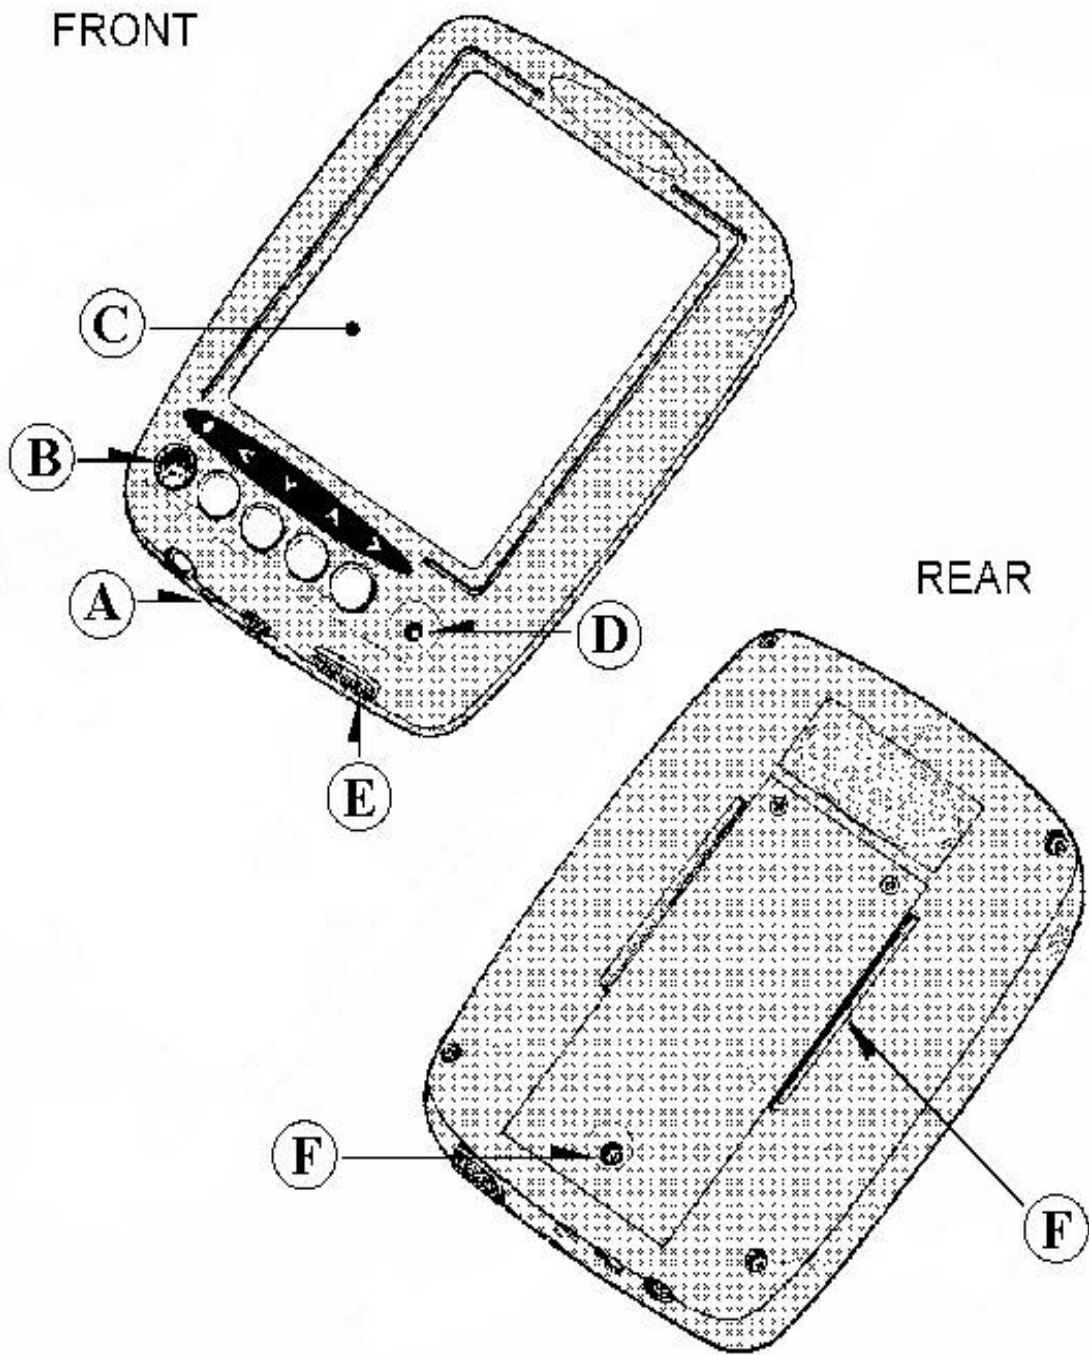

Figure 1
The M57R external description is shown in Figure 1.
This section is a quick review of the external parts of the Ball M57R Receiver (please refer to Figure 1 on the next page).
Activating the Ball M57R Receiver is performed by sliding the switch ((A) in Figure 1) to the right. In the first six seconds the M57R Receiver starts a self-diagnostic systems check. If the system check passes, you will see the Ball logo, ownership and balloon manufacturer's data displayed for approximately 6 seconds, then the "Flight Screen" will appear. If the system check fails, the Liquid Crystal Display screen will stay blank and an audible alarm will sound.
To turn the instrument off, slide the switch ((A) in Figure 1) to the left. You can turn the instrument off in any display, but it will always return to the "Flight Screen" when turned on. It is best to pause 3 to 4 seconds before turning the unit back on once you turn it off. The reason for this is to let the components lose their charge. If you switch it off then on rapidly, you may get a jumbled display. If this happens turn the unit off... pause... then back on to return to proper display.
The main Control Buttons ((B) in Figure 1) are used to adjust the Altimeters and Barometric Pressure.